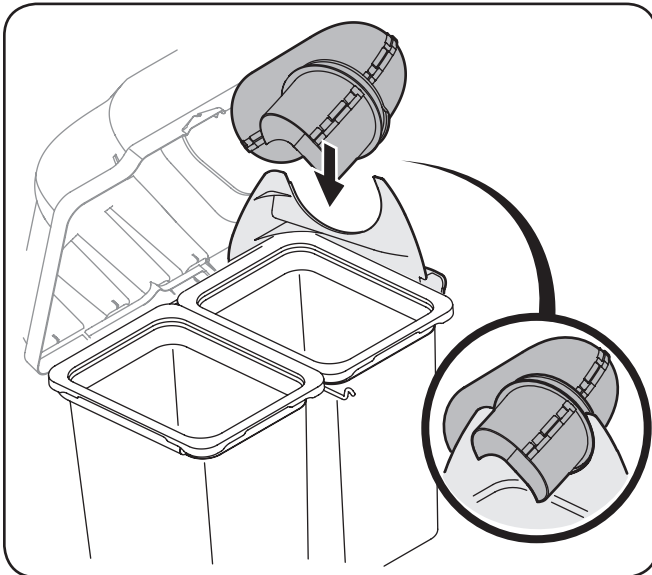

Figure 4-25
8. With the bagger cover open, pivot the upper chute tube into position so that the chute rests in the upper chute support. See Figure 4-25.